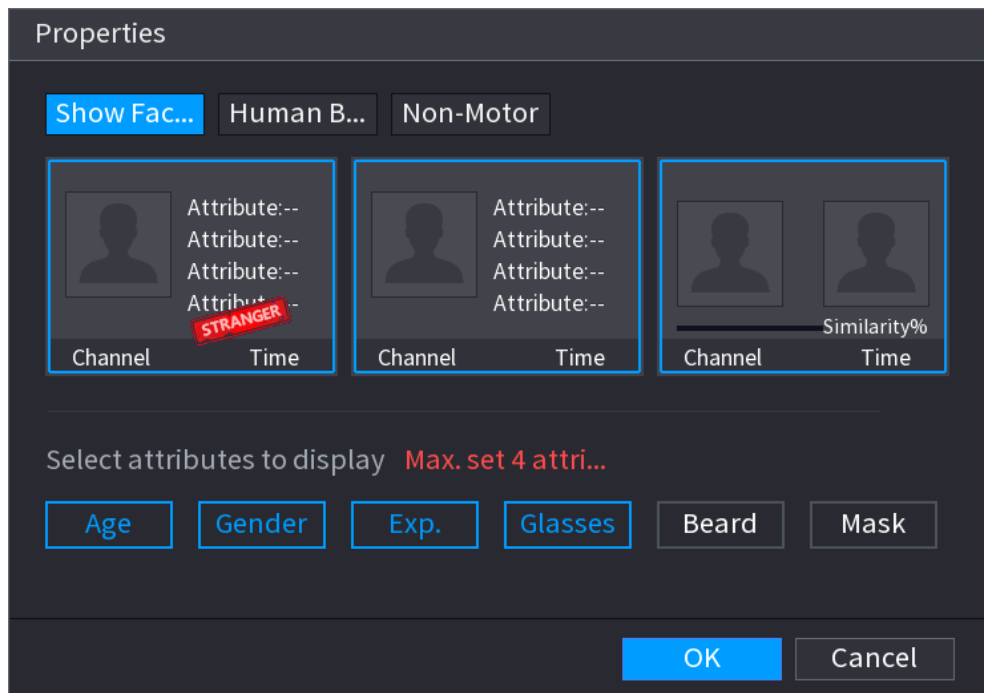

Figure 5-36
- : Click this icon and then select the face attributes that you want to display on the AI preview mode. Maximum four attributes are supported to display. See Figure 5-36.